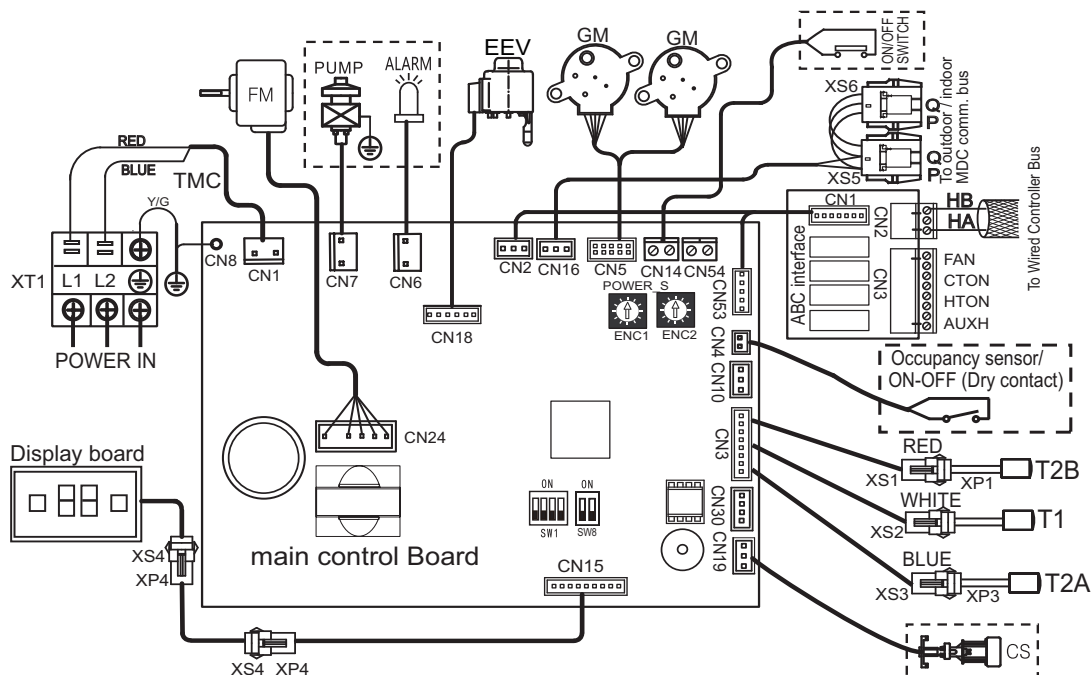

Fig. 11 —40VMW005-030 Typical Wiring Diagram
1. Lift up the front panel and look for the control box cover as shown in Fig. 11.